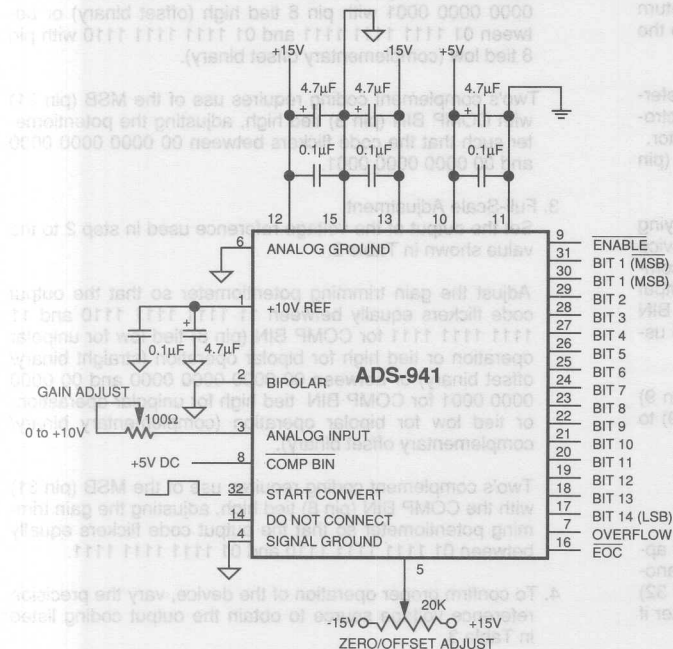

Figure 3. Typical ADS-941 Connection Diagram
1. Connect the converter per Figure 3, and Table 1 for the appropriate full-scale range (FSR). Apply a pulse of 50 nanoseconds minimum to the START CONVERT input (pin 32) at a rate of 200 KHz. This rate is chosen to reduce flicker if LED's are used on the outputs for calibration purposes.